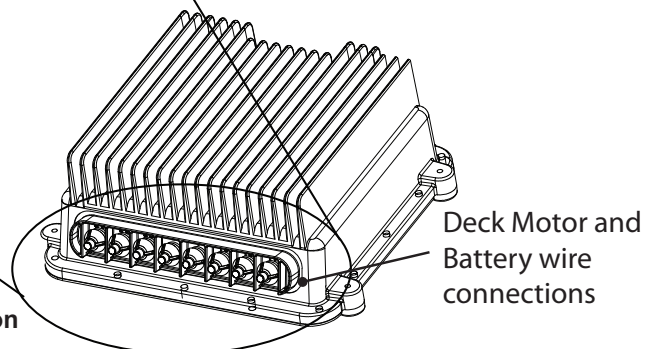

Figure 8. Wiring Configuration
9. Reconnect all wires from the Deck Controller according to Figure 8 (page 24).